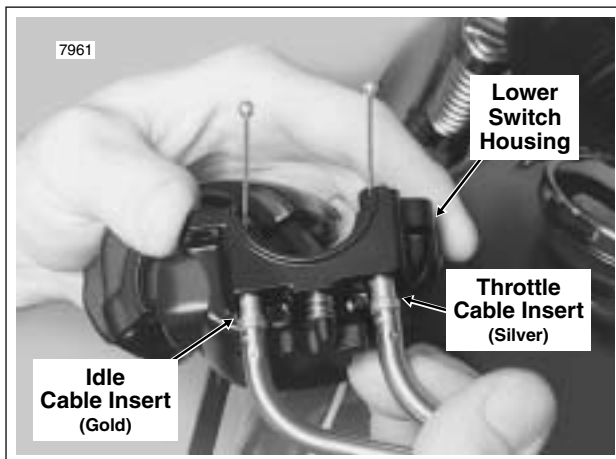

Figure 2-109. Install Throttle/Idle Cables in Lower Switch Housing
- Push the throttle and idle cables into the lower switch housing until they snap in place. See Figure 2-109. Proceed as follows: